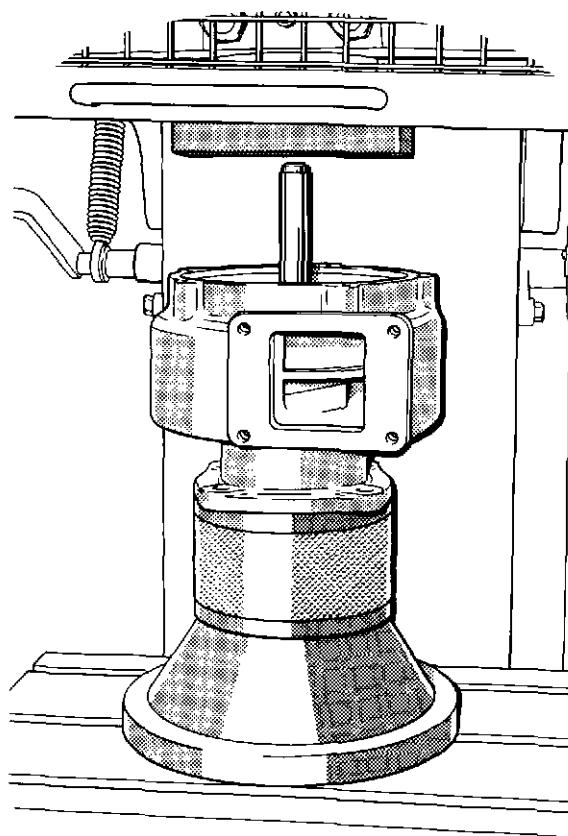

Fig. 6 Pressing out impeller shaft
- 20 Place the Support Base, VT 10682, on the bed of a press and place the Extension, VT 13845, on the jig. Mount the pump assembly on the extension, drive end downwards (fig. 6) and, using the Drift, VT 13966, on the end of the pump shaft, press the shaft assembly out of the impeller.